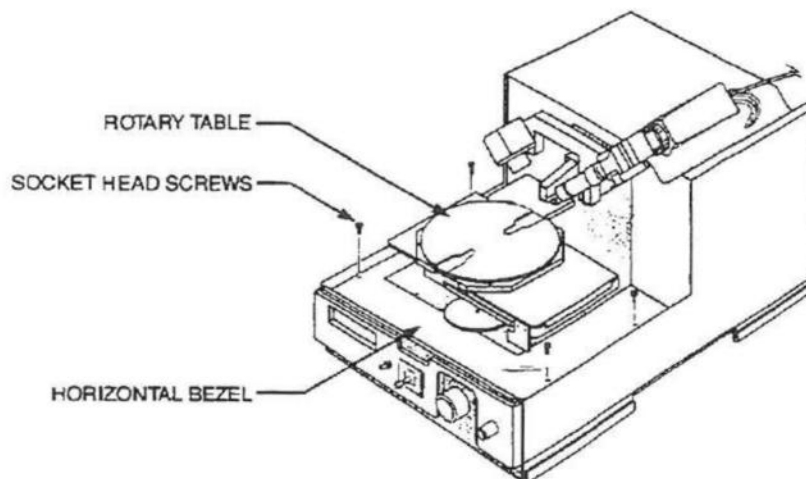

Figure C-1 - Horizontal Bezel and Rotary Table
6. Use a 3/32" driver to remove the four socket head screws securing the horizontal bezel (see Figure C-1). Carefully remove the bezel.
4. The "Thin Film Substrate" portion of the stress dialog box displays the material, orientation, and elasticity of the thin film substrate. Several options are stored in memory to compute stress in a variety of applications. To view the preprogrammed thin film substrate selections click-on "Options." The Options menu will be displayed (see Figure C-1).